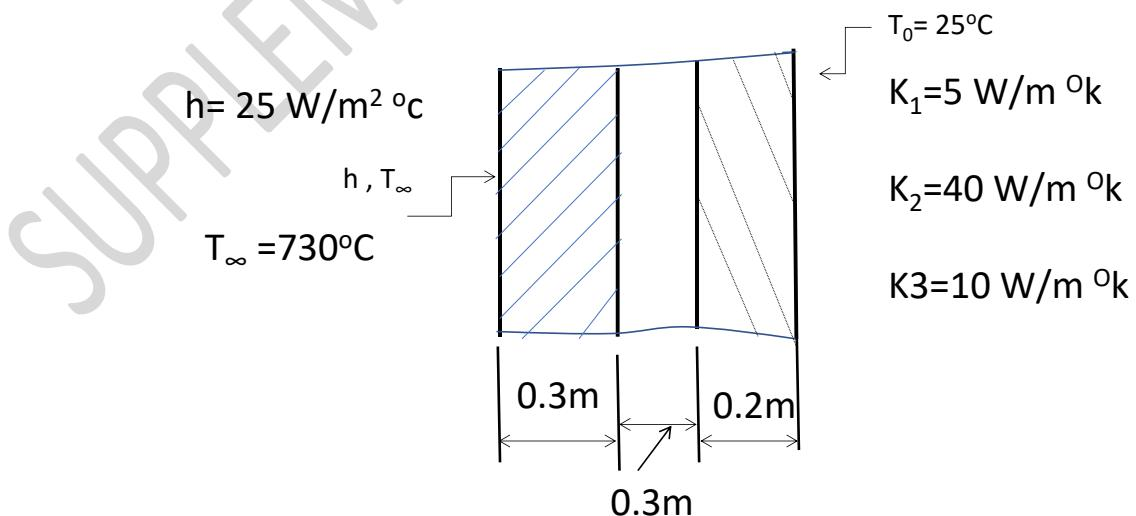

Fig. 7b
b) For the wall of furnace is shown in Fig. 7b, convection heat transfer takes at the inner side of the wall with the convection heat transfer coefficient of  $28\text{ W/m}^2\text{ }^\circ\text{C}$ . Determine the temperature distribution in the composite wall. 15